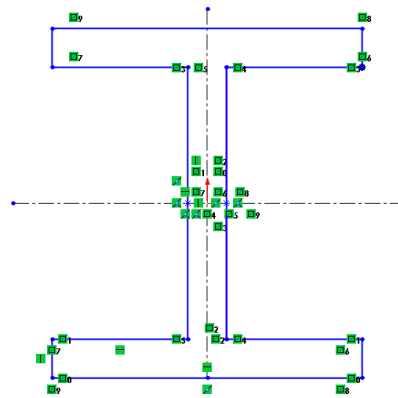

Figure 3-67 Final sketch for Tutorial 1
- Modify the sketch by dragging the sketched entities, refer to Figure 3-67.
6. Release the left mouse button when the **X Coordinate** spinner shows the value 10. The final sketch after modifying the sketched entities by dragging them is shown in Figure 3-67.